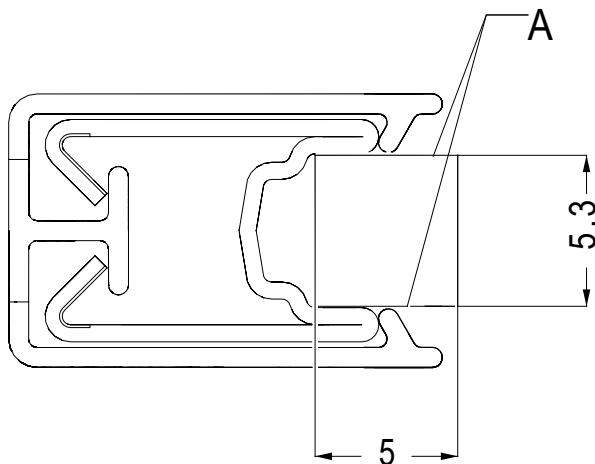

Fig. 30: Insert PEplus
- If necessary, re-measure (cut surfaces 5.3 mm or see surface A in Fig. 30)